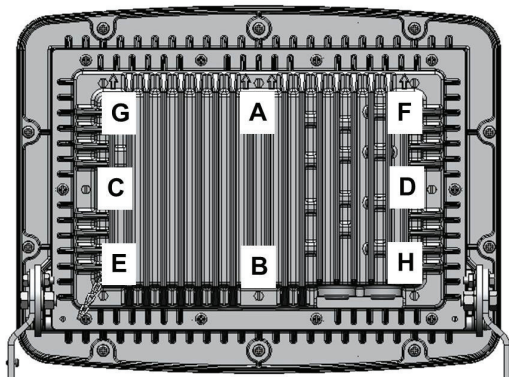

Figure 3
2. Ensure gasket joint, back cover and driver housing surfaces are clean and free of damage or debris. Put back cover in place on driver housing and start all (8) back cover screws hand-tight. Initially torque back cover screws to 40 In-lbs in sequence of A-B-C-D-E-F-G-H as shown in Figure 3. Next torque back cover screws up to 79 In-lbs again in the sequence of A-B-C-D-E-F-G-H. Finally torque screws through A-B-C-D-E-F-G-H sequence one final time and ensure torque values are at 79 In-lbs.